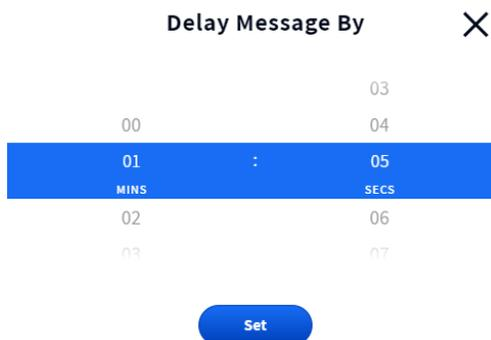

Fig. 1.14
**Adjustment Counters:** Some active areas such as time fields are edited by tapping on the field (see Fig. 1.14). Tap on a number above or below the blue field to change. Continue doing so until the desired number is in this field. The minute and second fields are controlled separately.